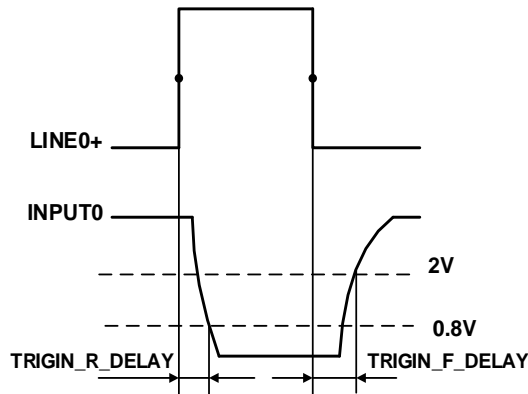

Figure 7-7 Parameter of opto-isolated input circuit
- Rising edge delay: <math><50\mu\text{s}</math> ( $0^{\circ}\text{C}\sim 45^{\circ}\text{C}</math>), parameter description as shown in Figure 7-7$
- Falling edge delay: <math><50\mu\text{s}</math> ( $0^{\circ}\text{C}\sim 45^{\circ}\text{C}</math>), parameter description as shown in Figure 7-7$